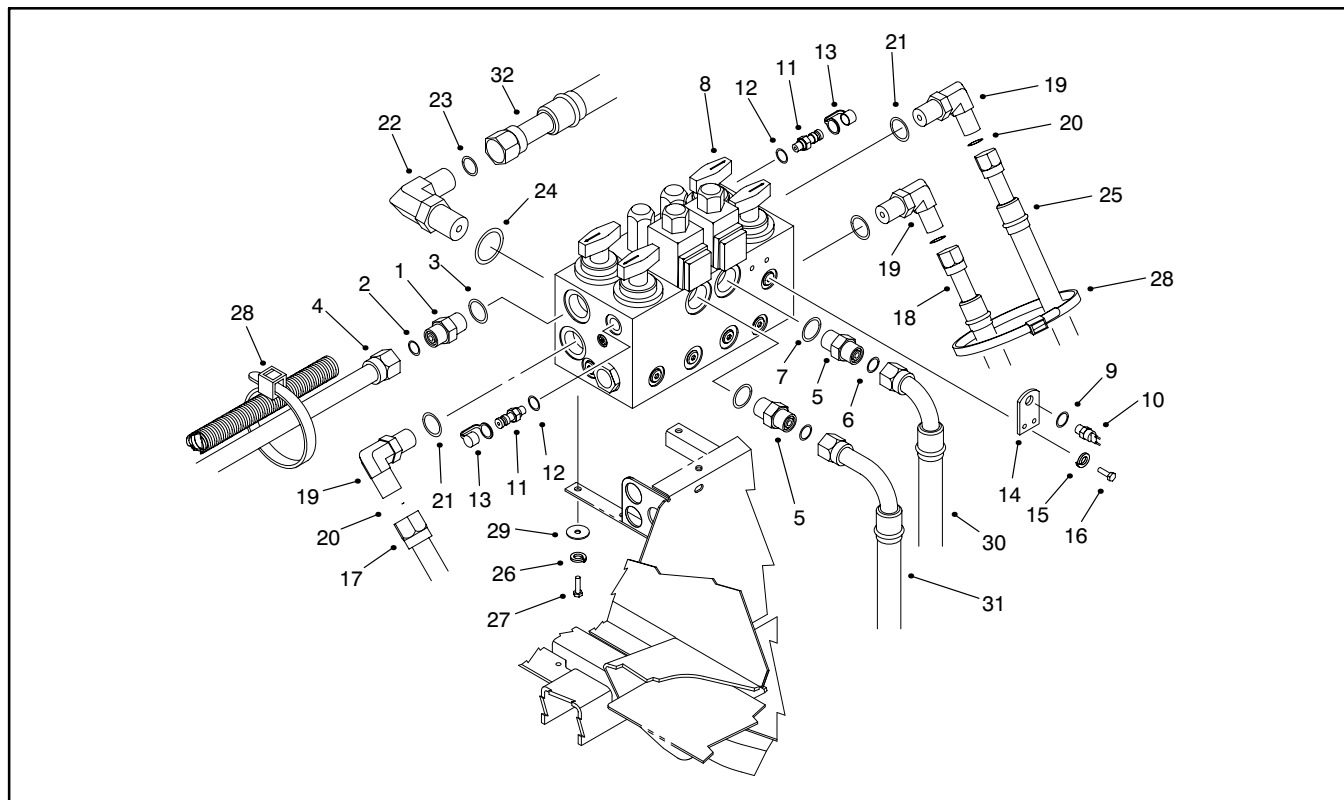

Figure 89
3. Remove hydraulic manifold from the frame (Fig. 89).